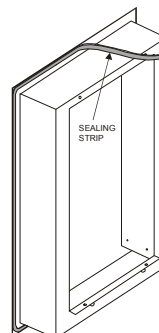
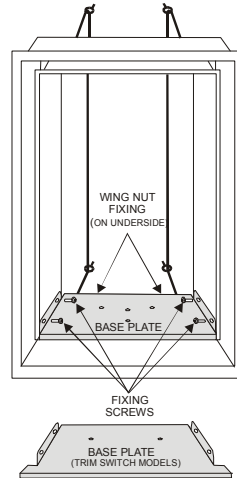

Figure 53
Figure 55
4. Remove the base plate (see **Figure 55**), then fit the sealing strip to the rear of the flange, as shown in **Figure 53**.